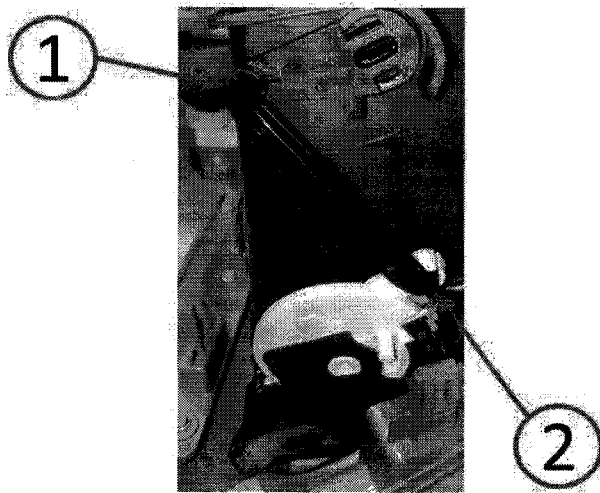

***Fig. 7 HVAC Outlet Inner Side Edge Attachment***
7. Ensure the inner side edge of the HVAC outlet is properly attached (Fig. 7).